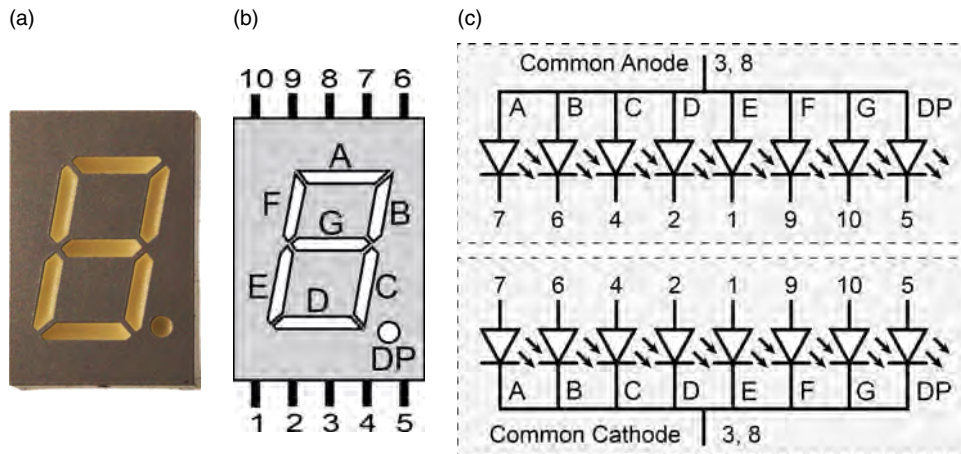
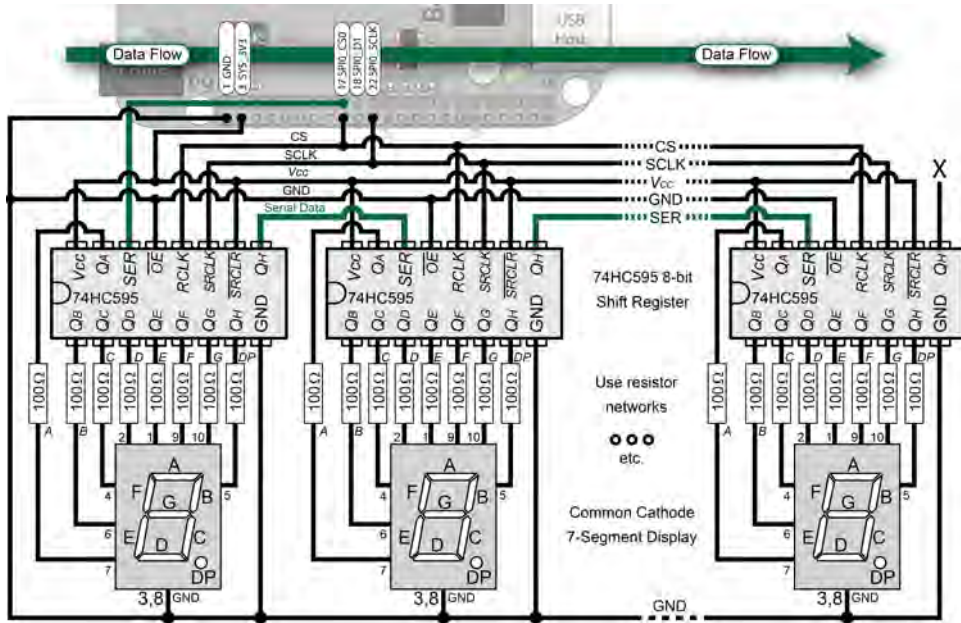

Figure 9-17: (a) Seven-segment display; (b) typical pin ordering; (c) typical common anode and cathode display configurations
Figure 9-18: SPI interfacing to arrays of common cathode seven-segment displays using daisy-chained 74HC595 8-bit serial shift registers
Seven-segment displays typically consist of eight LEDs that can be used to display decimal or hexadecimal numerals with a “decimal” point. They are available in a range of sizes and colors, with a typical example displayed in Figure 9-17(a). The segments are typically labeled as in Figure 9-17(b).
Seven-segment displays are described as being either *common cathode* or *common anode* displays. This means that the cathodes or anodes of the array of LEDs that make up the display are connected together as in Figure 9-17(c). You should not limit the current passing through the display by placing a single resistor on the common anode or the common cathode connection, as the limited current will be shared among the segments that are lighting. This results in an uneven
Figure 9-18 illustrates a wiring configuration that can be used to connect an array of common cathode seven-segment displays to the BBB using its SPI interface. This is similar to the circuit in Figure 8-5, with the exception that the 74HC595 ICs are *daisy-chained* (i.e., the serial output of one stage is applied as the serial input to the next stage) by connecting the serial output Q_H from one stage to the SER input of the next stage. If there are three seven-segment displays in this configuration, then it is necessary to shift 24 bits (3×8 bits) to the BBB SPI0_D1 output before latching the 74HC595s using the BBB's SPI0_CS0 line.
For example, `0b00111111` displays the zero symbol, as all segments are on, except for the “decimal” point (DP) and the center segment (G)—see Figure 9-17(b). The code in Listing 9-8 provides an example of how to use an array of common cathode seven-segment displays, as shown in Figure 9-18. The constructor of the `SevenSegmentDisplay` class requires an `SPIDevice` object and the number of segments that are present in the display circuit.
If the circuit is built as in Figure 9-18 (but with two segments) and attached to the SPI0 bus, then the code in Listing 9-8 counts in hexadecimal in steps of 1 until it reaches 0xFF, whereupon it counts in decimal from 0.0 to 9.9 in steps of 0.1. This demonstrates the range of functionality that is available in the class. The DP segment lights as required—it can act as a “decimal point” for any base used. To build and execute this code, you must first ensure that the SPIDEV0 virtual cape is loaded:
The class can also be used with common anode display modules. The modules would be wired exactly as in Figure 9-18; however, pin 3 or 8 would be connected to the +5V line—see Figure 9-17(c). The role of the 74HC595 would then be to sink current in order to light one of the LED segments. For example, if the output of Q_H on the 74HC595 is logic high, then the DP will not be lit, as both the cathode and anode of the LED will be at a 5V level and the LED will not be forward-biased. However, if Q_H is logic low, then the anode of the DP will be at +5V and the cathode will be at 0V. The DP segment will then be forward-biased and will light. Therefore, the code to drive a common anode seven-segment display simply inverts the number that is sent to the 74HC595. For example, the number 0 is 0b00111111 for a common cathode display and 0b11000000 for a common anode display.